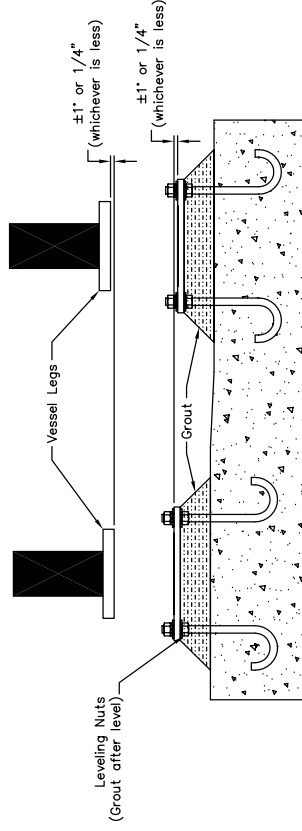

FIGURE 1: ANGULAR MISALIGNMENT
- b. Also check the surfaces for flatness and angular misalignment. A baseplate with leveling nuts is recommended. (See Figure 1: Angular Misalignment).